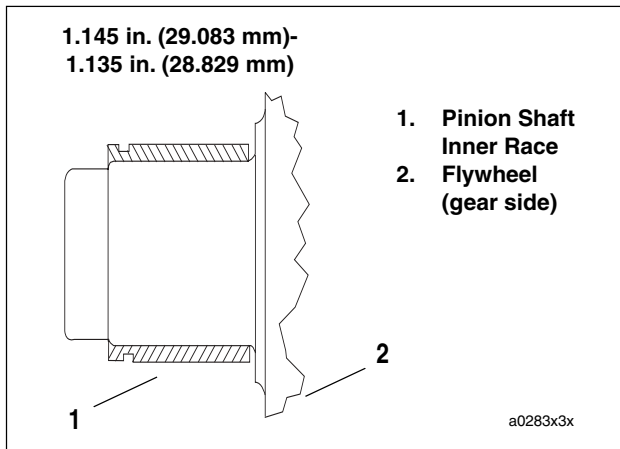

Figure 3-147. Inner Race Location
8. See Figure 3-147. Press **new** inner race on pinion shaft as shown. When the tool bottoms against the flywheel, correct inner race location is automatically established. The **new** inner race must be ground by a competent machinist to OD dimension range for the finished lapped ID of the outer race. See Table 3-31. The finished inner race must meet the specifications in Table 3-34.